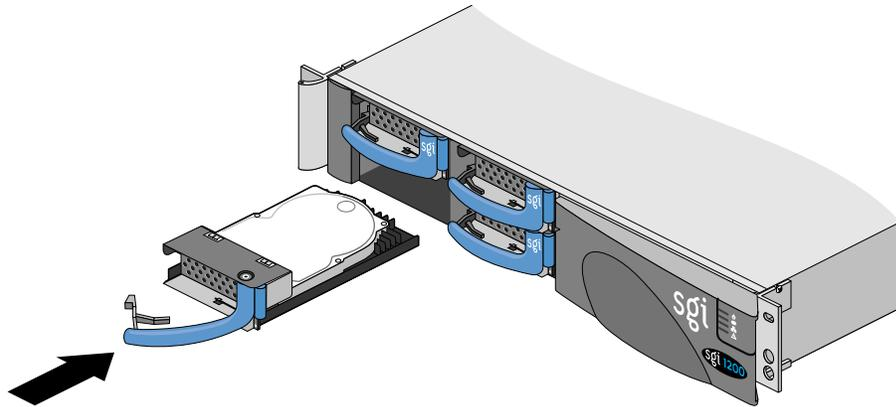

Figure 2 Hot-swap Hard Drive Replacement
Hard drives slide into the SGI 1200 server midplane as shown in Figure 2. The SGI 1200 server can be configured with up to four hard disk drives. Note that the drives are only hot-swappable when using a PCI RAID option.
3. Slide the new disk into the hard drive bay as shown in Figure 2.